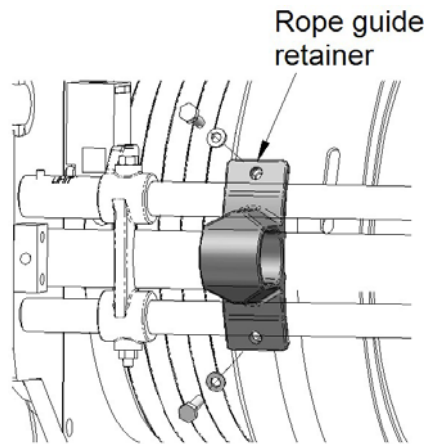

Figure 44 – Fitting Rope Guide Retainer – Standard Environments Rv-1 (see hoist nameplate for revision)
- FOR STANDARD ENVIRONMENT ROPE GUIDES type Rv-1:- Fit the rope guide retainer to the face of the rope guide. Tighten the screws to 8Nm (see Figure 44).